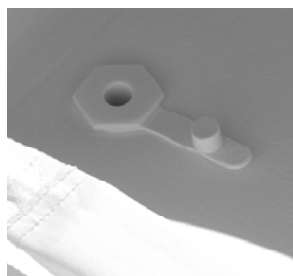

Figure: 14
6. When open, the stopper of the bailer plug should lie on the cockpit floor pointing towards the bow (Figure 14).